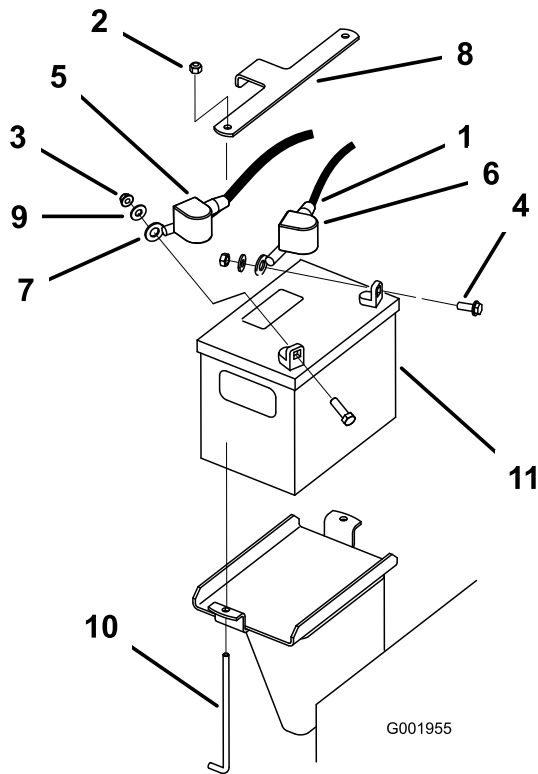

Figure 30
3. Remove the black rubber cover from the negative cable and disconnect the negative battery cable from the negative (-) battery terminal (Figure 30).
4. Slide the red terminal boot off the positive (+) battery terminal, and remove the positive battery cable (Figure 30).
5. Remove the battery hold-down plate (Figure 30) and remove the battery.
1. Place the battery in the machine (Figure 30).
2. Secure the battery with the hold-down plate, j-bolts, and locknuts (Figure 30).
3. Install the positive (red) battery cable to positive (+) battery terminal with a nut, washer, and bolt (Figure 30).
5. Install the negative battery cable and ground wire to the negative (-) battery terminal with a nut, washer, and bolt (Figure 30).